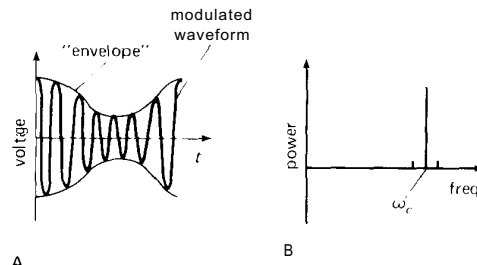

Figure 13.37. Amplitude modulation.
i.e., the modulated carrier has power at frequency ω_c and at frequencies on either side ω_m away. Figure 13.37 shows the signal and its spectrum. In this case the modulation (m) is 50%, and the two "sidebands" each contain $\frac{1}{16}$ of the power contained in the carrier.